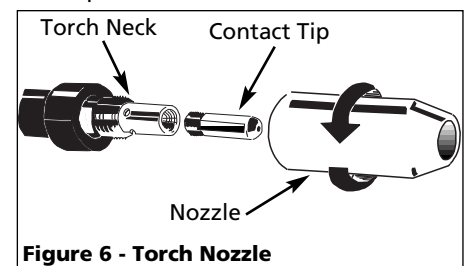

Figure 6 - Torch Nozzle
7. Remove the nozzle by turning **counterclockwise**. Then unscrew the contact tip from the end of the welding torch (See Figure 6). Plug the welder into the proper power supply receptacle.
- Carefully slip the contact tip over the wire and screw it into the torch neck. Install the nozzle by turning **clockwise** (See Figure 6). Cut the wire off approximately 1/4" from the end of the nozzle.